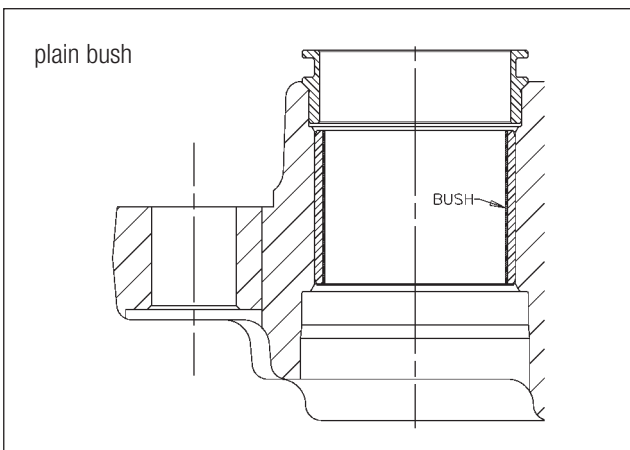

Fig. 11.2
1. An oval guide sleeve with a plain bush and separate dust excluder retainer (Fig. 11.2).